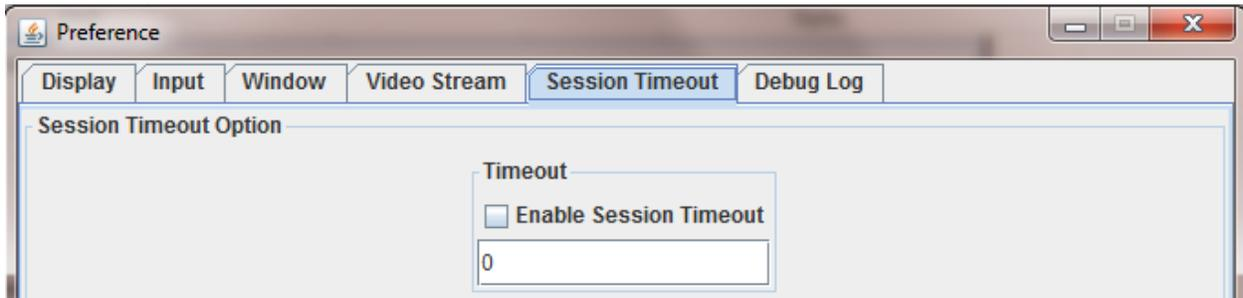

Figure 27. Remote Console Session Timeout Settings
- **Session Timeout** (Figure 27) – Enable session timeout by specifying how many minutes for timeout.